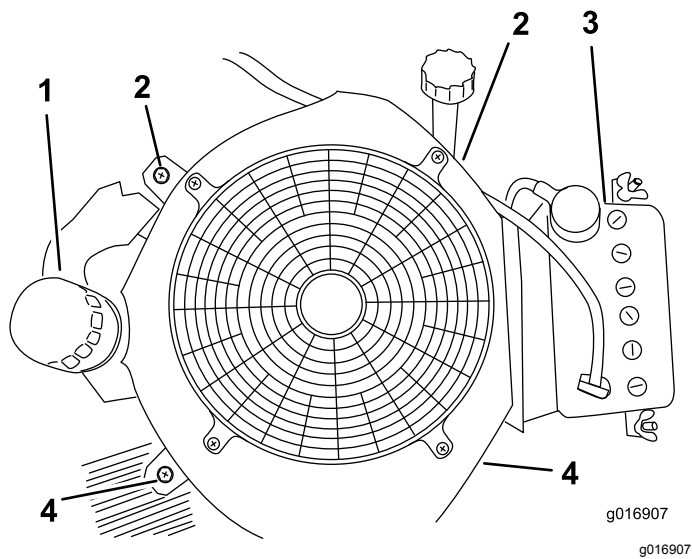

Figure 73
6. Remove the 2 screws on the left and right sides in the cooling-fan housing (Figure 73).